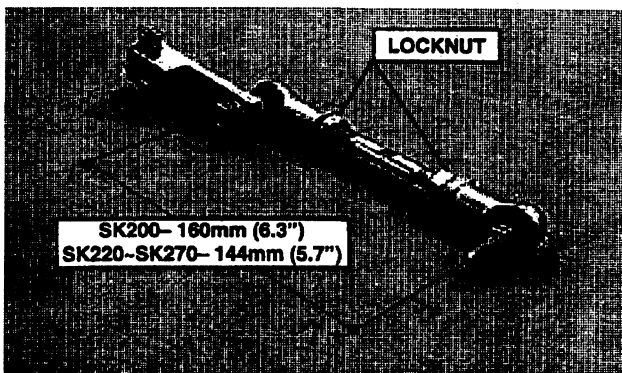

FIGURE 6.16A
11. Loosen the linkage jam nuts on the Adjustable Linkage and adjust to proper dimension for the machine being adjusted . See Figure 6.16A. Finger tighten jam nuts and lay linkage aside.